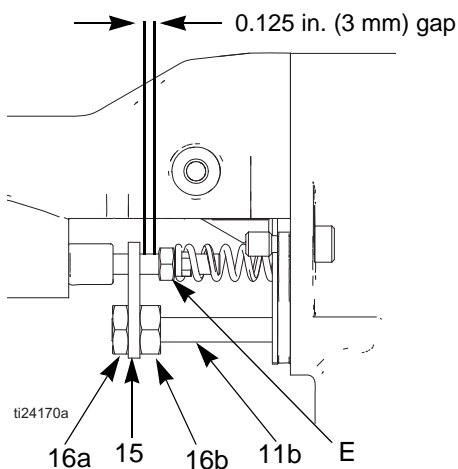

FIG. 33 . Actuator Arm Adjustment
2. Remove the air cap, page 42. Remove the gun shroud (26).
3. Remove the jam nut (16) and actuator arm (15) and adjustment nut (16). See FIGURE 33.
3. Remove the jam nut (16), actuator arm (15), and adjustment nut (16). See FIGURE 33.
See FIGURE 33.
3. Remove the adjustment nuts (16a, 16b) and actuator arm (15). See FIGURE 33.